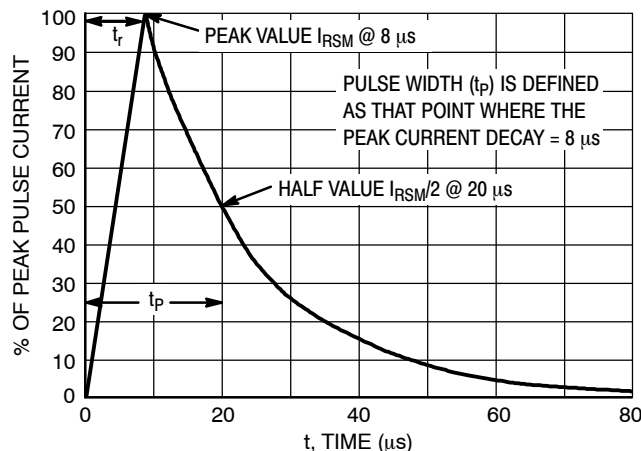

Figure 28. 8 X 20 μ s Pulse Waveform
5. Surge current waveform per Figure 28 in ESD paragraph.